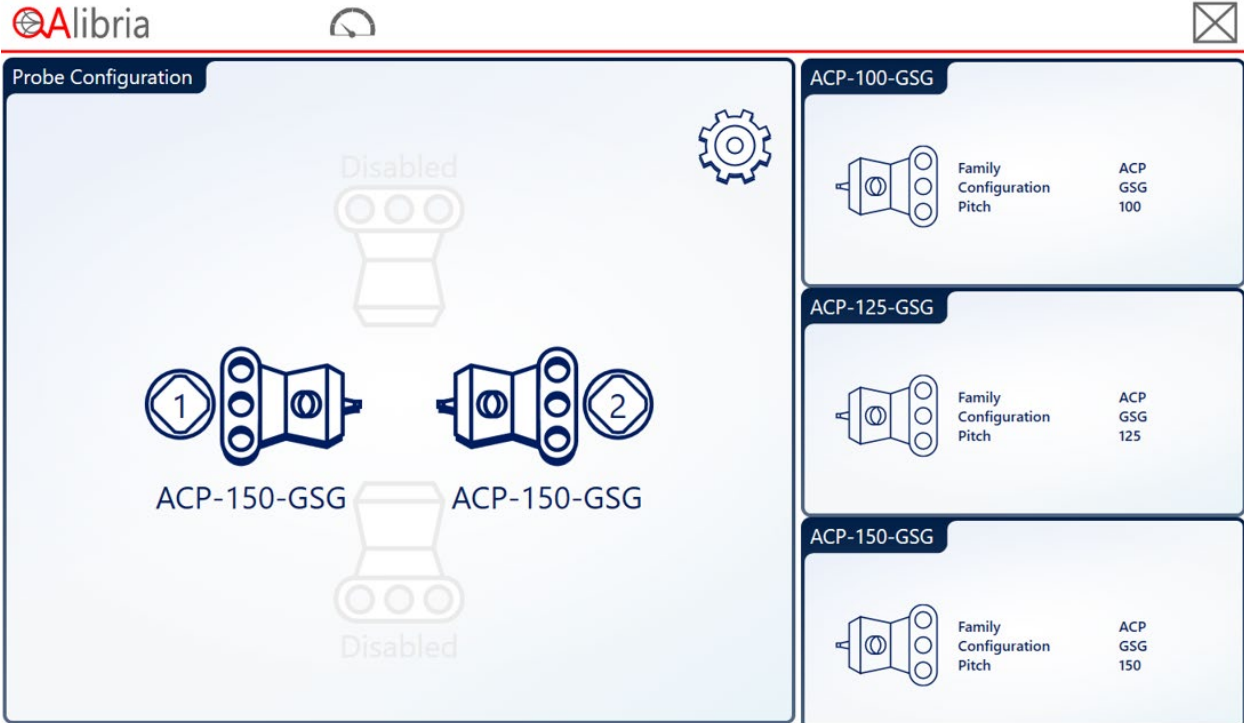
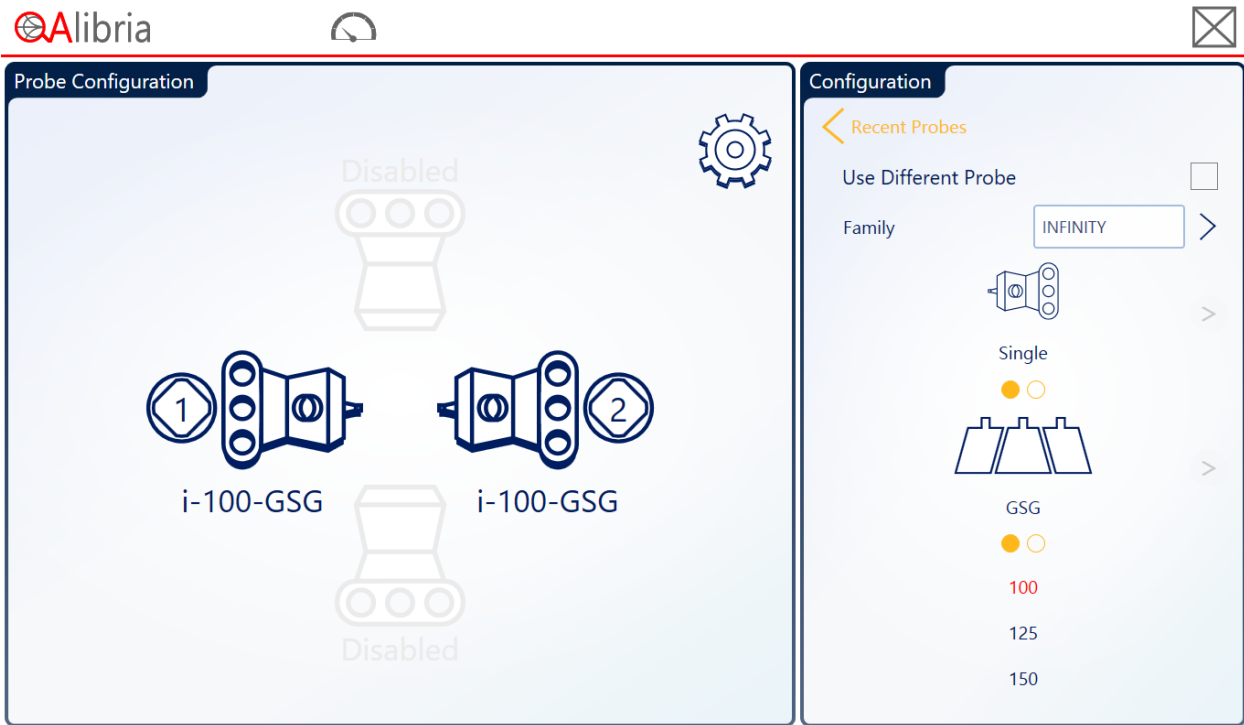

Fig. 7.10. Probe configuration.
Fig. 7.11. Probe configuration details.
- 7.16 In the "Probe Configuration" module, click on  and  and Fig. 7.10 shows up. To choose the probe model, click on  and Fig. 7.11 pops up. In the right module "Configuration," Check "Use Different Probe" only if the Port 2 probe is different from the Port 1 probe. On the right of "Family," click on  to choose the probe family, then " Configuration" to return on Fig. 7.11. Under , only "Single" is allowed because the present VNA has only one channel between Port 1 and Port 2. Under , change "GSG" to "GS/SG" if you have those types of probes. Under "GSG" or "GS/SG," select the probe pitch. The selected probe pitch will be highlighted in red. Click on  near the top of the "Configuration" module to go back to Fig. 7.10. Then click on  to go back to the QAlibria home screen (Fig. 7.9.) QAlibria will automatically update the calibration coefficients based on the probe model you selected. If your probes are not listed, QAlibria will not know what calibration coefficients to use. In this case, you can click on  in the "Calibration Method" panel of the home screen to choose another calibration method such as TMRR as shown in Fig. 7.12.